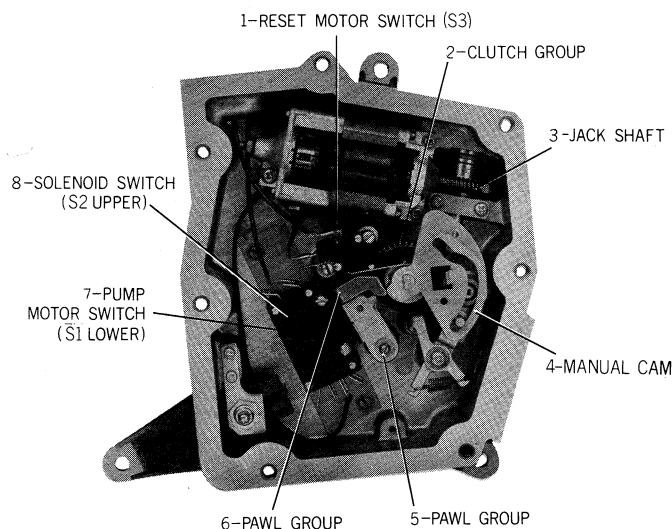

Figure 1. Series 7269 Electric Reset Parts Identification.
A. SERIES 7269 ELECTRIC RESET. Figure 1.
1. General. The electric reset, Figures 1, 2 and 4, contains three switches.
4. Reset Motor Switch (S3) Replacement, item 1, Figure 1:
C. CLUTCH GROUP REPLACEMENT – SERIES 7269 ELECTRIC RESET. Figure 1.